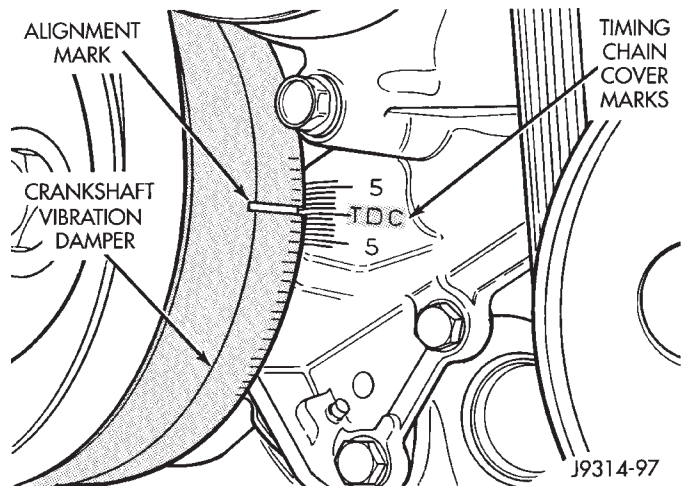

Fig. 37 Damper-To-Cover Alignment Marks—Typical
- (1) Disconnect negative cable from battery.
- (2) Remove air cleaner tube at throttle body.
- (3) Disconnect coil secondary cable at distributor cap.
- (4) Disconnect all secondary spark plug cables at distributor cap. Note and mark position before removal.
- (5) Remove distributor cap from distributor (two screws).
- (6) Mark the position of distributor housing in relationship to engine or dash panel. This is done to aid in installation.
- (7) Before distributor is removed, the number one cylinder must be brought to the Top Dead Center (TDC) firing position.
- (8) Attach a socket to the Crankshaft Vibration Damper mounting bolt.
- (9) Slowly rotate engine clockwise, as viewed from front, until indicating mark on crankshaft vibration damper is aligned to 0 degree (TDC) mark on timing chain cover (Fig. 37).
Rotate crankshaft in a clockwise direction, as viewed from front, until number one cylinder piston is at top of compression stroke (compression should be felt on finger with number one spark plug removed). Then continue to slowly rotate engine clockwise until indicating mark (Fig. 37) is aligned to 0 degree (TDC) mark on timing chain cover.